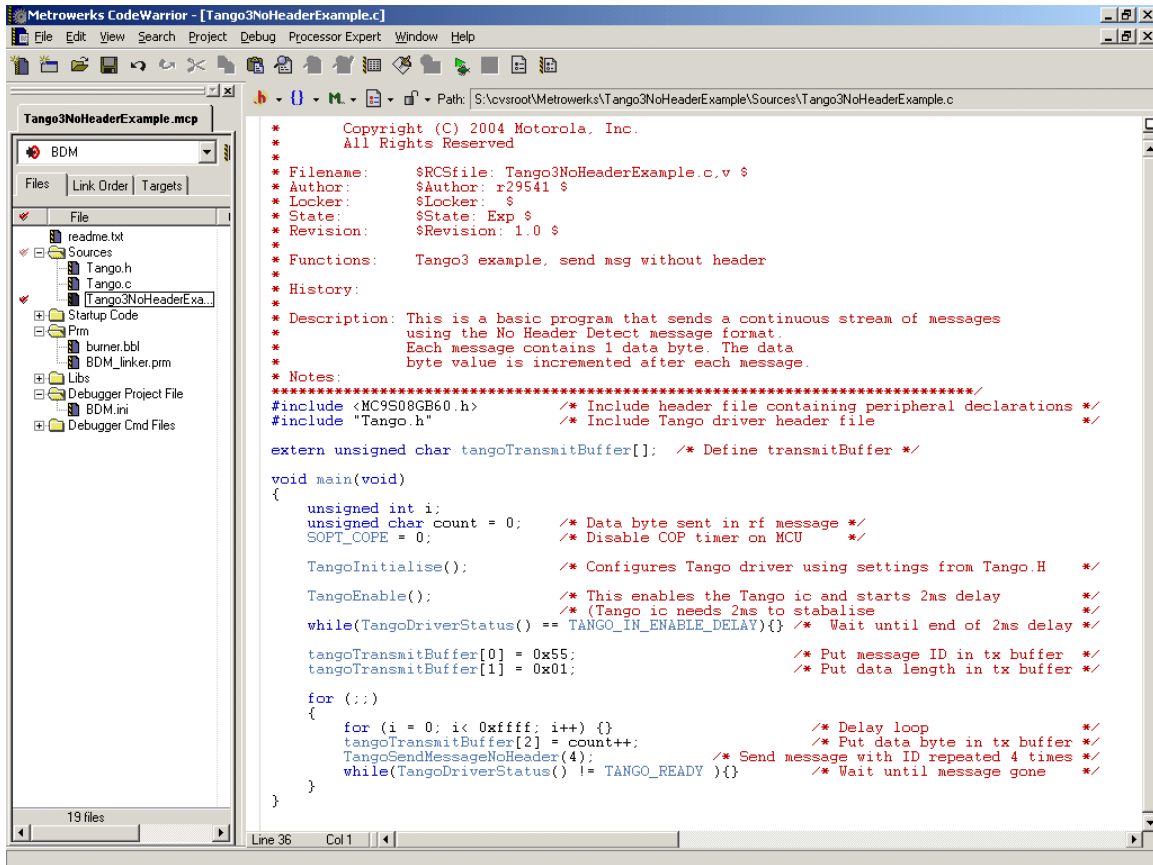

Figure 16. Example Tango3 Application.
**Figure 16** shows a simple application that will send a continuous stream of messages using Tango3. Each message contains one data byte and the value of the data byte is incremented.